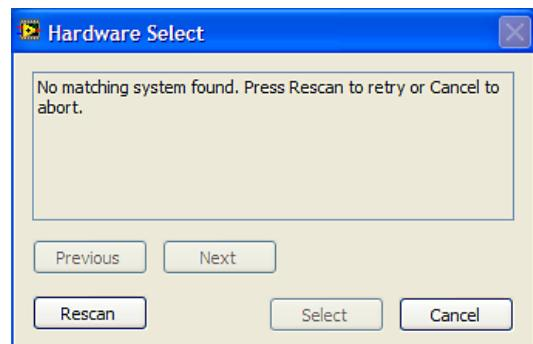

Figure 7. Connectivity Error Alert
- If the evaluation system is not connected to the USB port when the software is launched, a connectivity error displays (see Figure 7). Connect the evaluation board to the USB port of the PC, wait a few seconds, click **Rescan**, and follow the instructions.